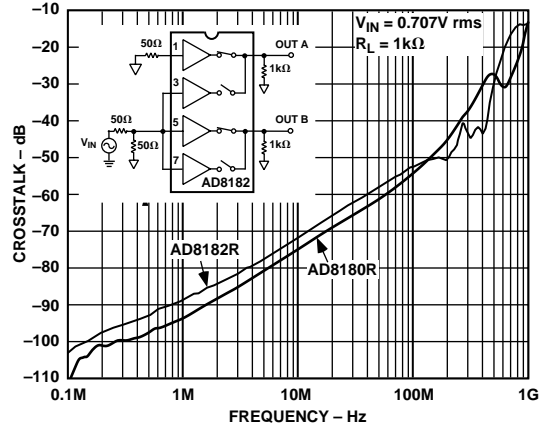

Figure 13. All-Hostile Crosstalk vs. Frequency
- NOTE 6: Select input which is not being driven (i.e., if SELECT is Logic 1, input activated is IN1); drive all other inputs with $V_{IN} = 0.707$ V rms and monitor output at $f = 5$ and 30 MHz. $R_L = 1$ k Ω (see Figure 13).